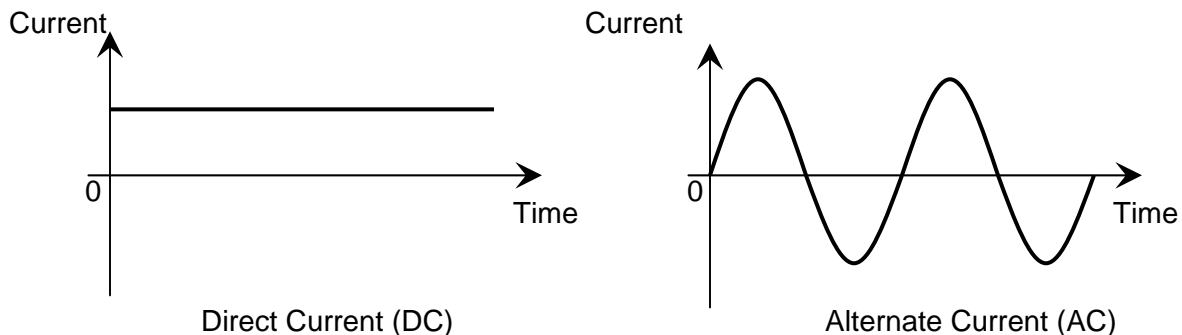

Figure 1: Direct Current (DC) and Alternate Current (AC) signal amplitudes.
Electric current refers to the amount of charge that passes through a surface per measure of time. At an atomic level, current is the flow of electrons. A current that moves in the same direction around a circuit is referred to as Direct Current (DC). A current whose direction alternates continuously back and forth is referred to as Alternating Current (AC) (see Figure 1). The number of times that the current alternates back and forth in a second is known as frequency. Frequency is measured in Hertz. For example 60 Hertz means that the current alternates back and forth 60 times per second.